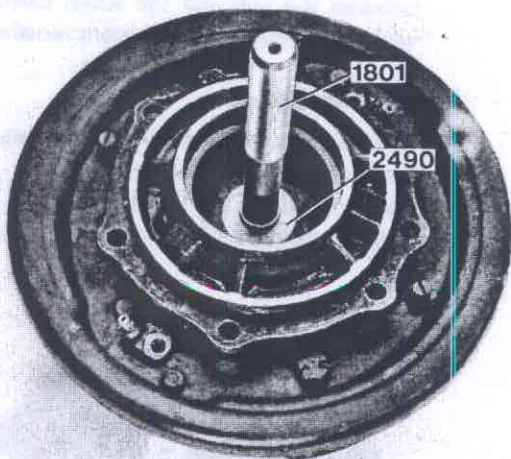

Fig. 77-9. Removing the outer bearing outer ring
2. Press out the outer bearing outer ring with drift 2490 and standard handle 1801, see Fig. 77-9.